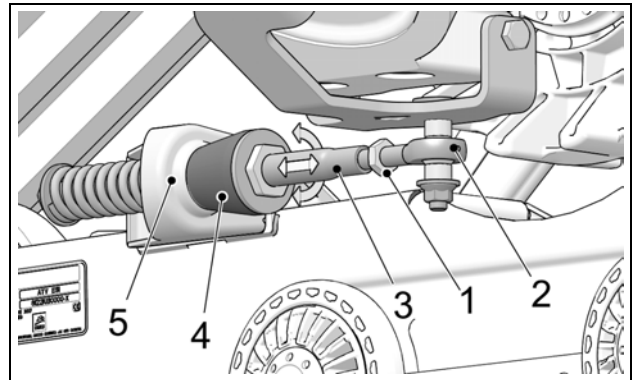

Figure 15
- Loosen jam nut (1). Turn stabilizing arm (3) to adjust length of rod end (2) so that rubber cone (4) applies light pressure on anti-rotation retainer (5). Figure 15.